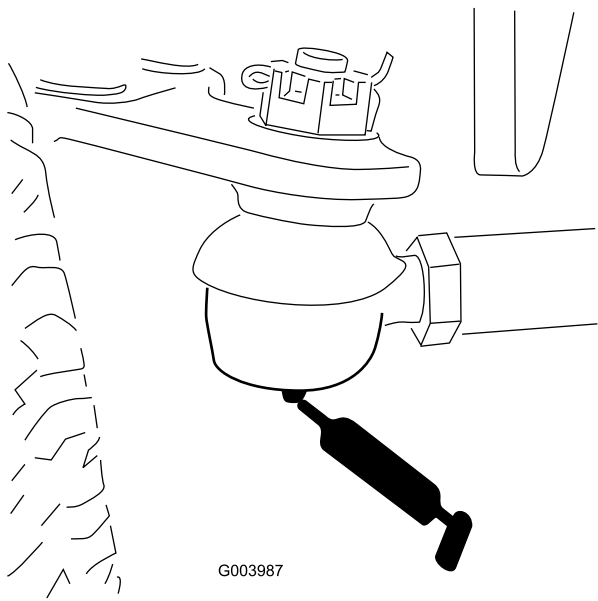

Figure 47
- Rear axle-tie rod (2) (Figure 47)